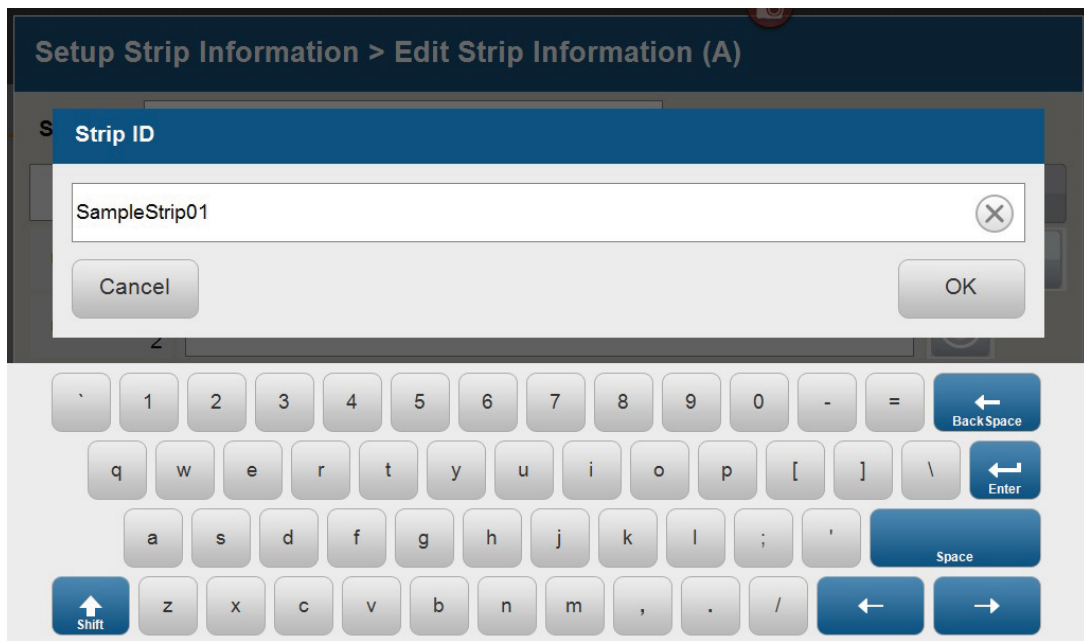

Figure 17. 'Set Strip ID' window.
- The default Strip ID is date and time. It can be modified by selecting the Strip ID box. This opens the 'Set Strip ID' window and a keypad will become active on the touch screen (Figure 17). Alternatively, the Strip ID can be entered using a traditional keyboard if one is connected to the Spectrum Compact CE System. Enter the appropriate Strip ID, then select **OK** to exit and return to the 'Edit Strip Information' screen.